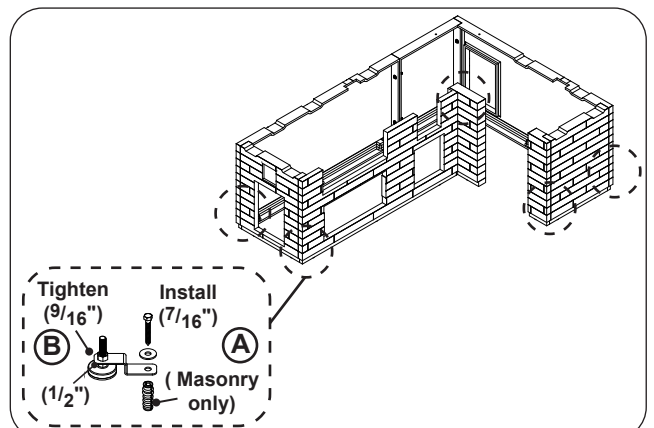

Fig. 14-4 Mount island
1. Secure the island to the floor using the 5 pre-installed mounting brackets. Use a $\frac{7}{16}$ " open end wrench and the supplied mounting hardware as appropriate. See Fig. 14-4, A.
Finish by tightening down the brackets. Hold a leveler in place (below bracket) with a $\frac{1}{2}$ " open end wrench, and tighten the nut (above bracket) using a $\frac{9}{16}$ " open end wrench. See Fig. 14-4, B.